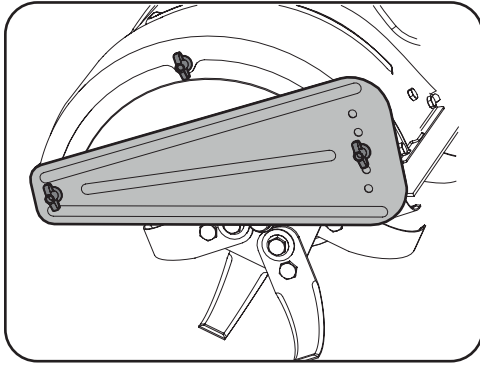

Figure 4-5
1. Remove the three wingnuts from the side shield. See Figure 4-5.